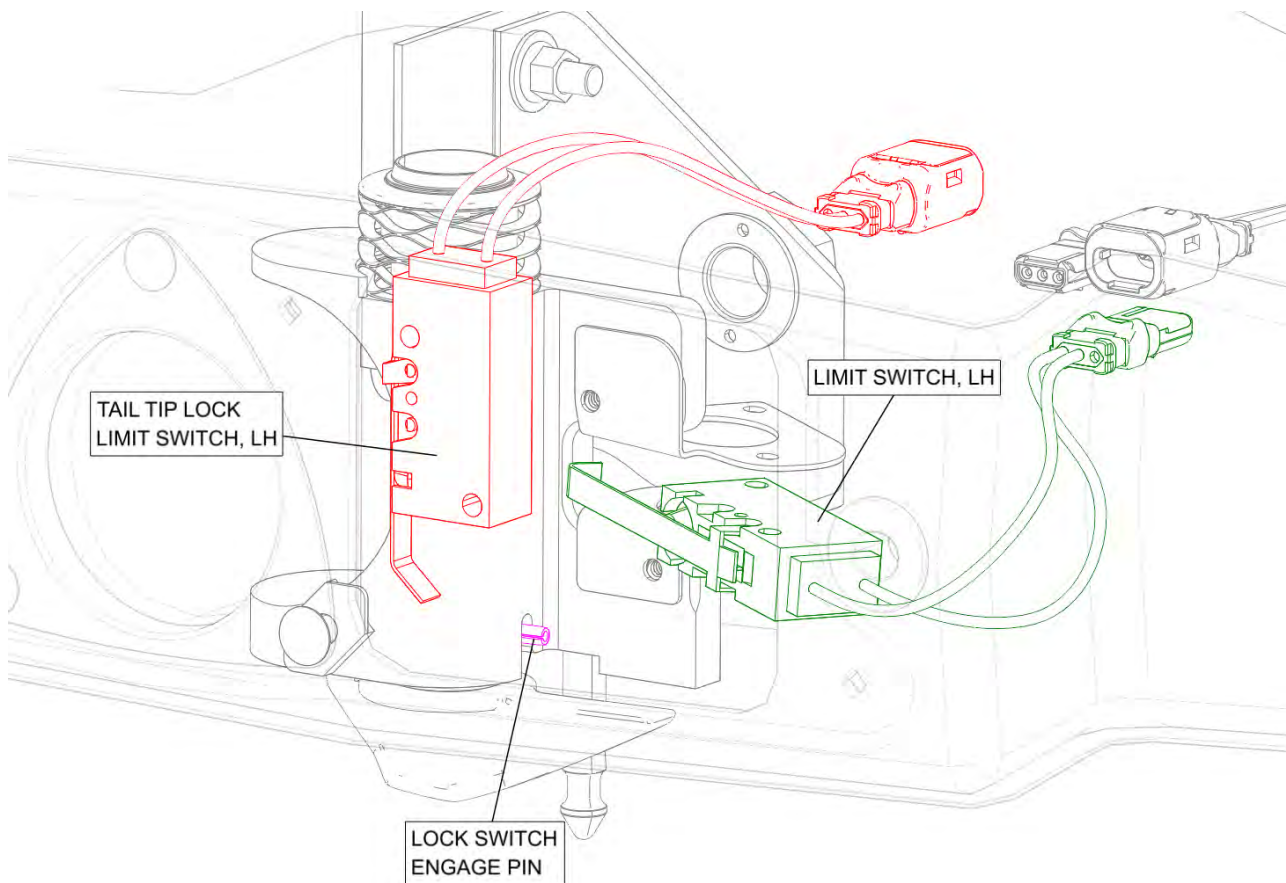

FIGURE 12-4
3. Unplug and remove limit switches from wiring harness. (See Figure 12-4.)